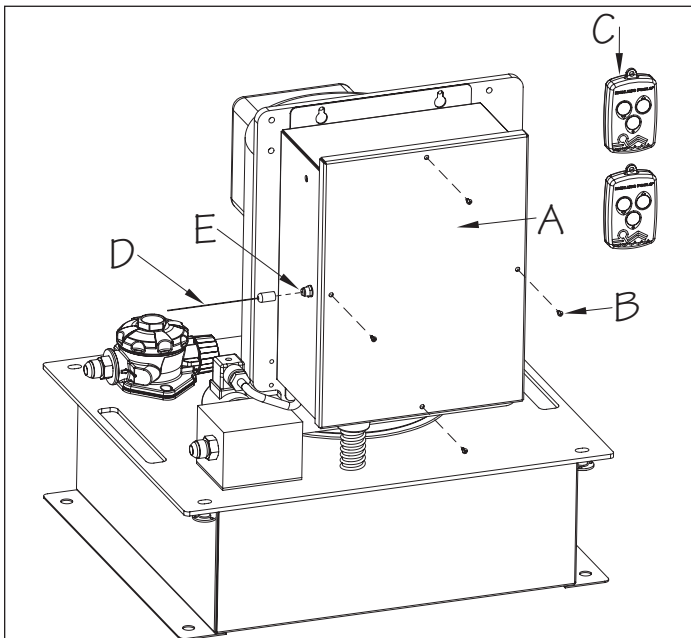

Fig. 27
Remove the Front Cover (A) of the power unit controller by removing the screws (B). Remove the Wireless Transmitters (C) and the Antenna (D). Attach the Antenna to the Antenna Connection (E) on the side of the controller (Fig. 27).